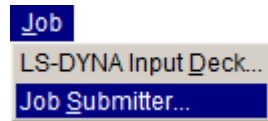

Figure 1.34 Job menu
1. Click **Job→Job Submitter** in the menu bar, as illustrated in Figure 1.34.